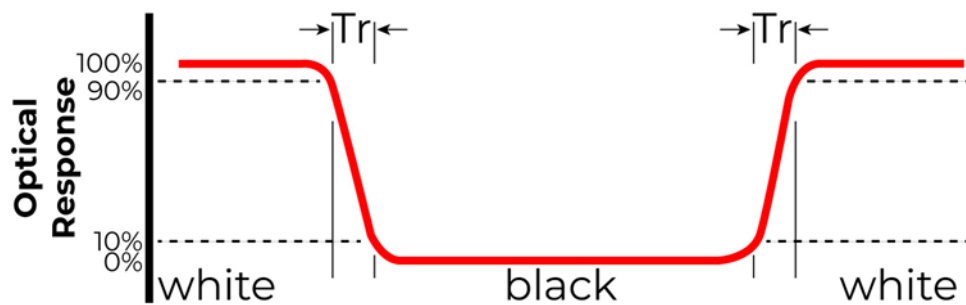

Figure 2. The definition of response time
| Response Time           | Tr+Tf          | $\theta=0^\circ$$\phi=0^\circ$$T_a=25^\circ\text{C}$ | -     | 30    | 40    | ms                | FIG 2. | 4, 7 |
**Note 4.** Response time is the time required for the display to transition from white to black (Rise Time, Tr) and from black to white (Decay Time, Tf). For additional information see Figure 2. The test equipment is BM-7A.